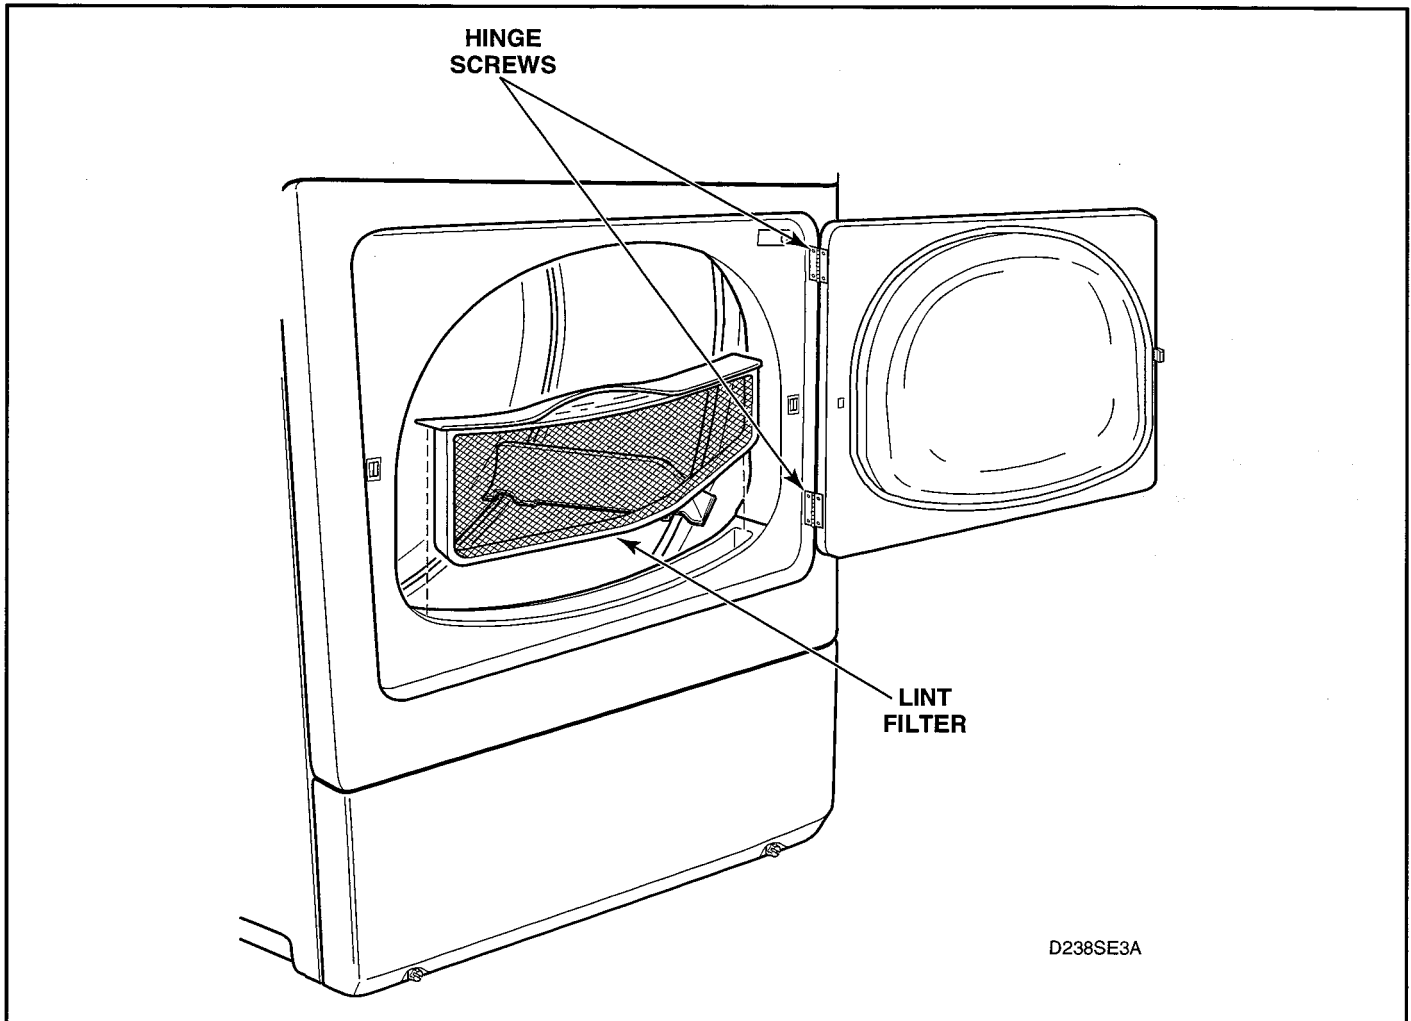

Figure 5-3
7. LINT FILTER (Figure 5-3)
- Remove four screws holding door assembly to hinges. See figure 5-3.
- Remove screws holding loading door to hinges. See figure 5-3.